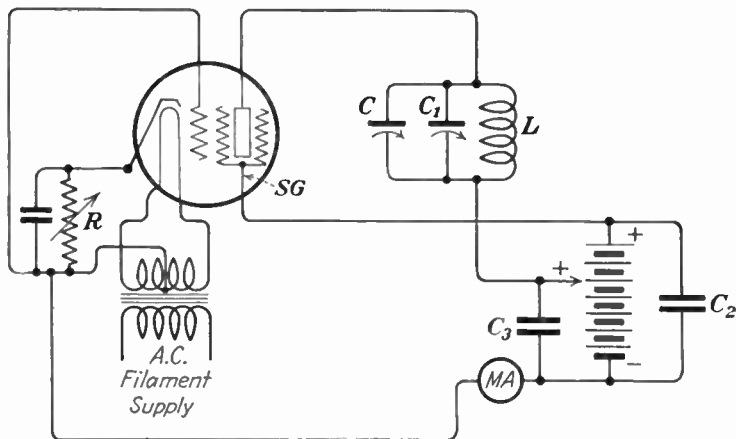

FIG. 3-11.—Dynatron oscillator.
Ans. See Fig. 3-11. This type of oscillator may be identified by the anode (SG) being at a higher potential than the plate. This condition is necessary to accomplish the secondary emission on which the circuit depends for its operation.